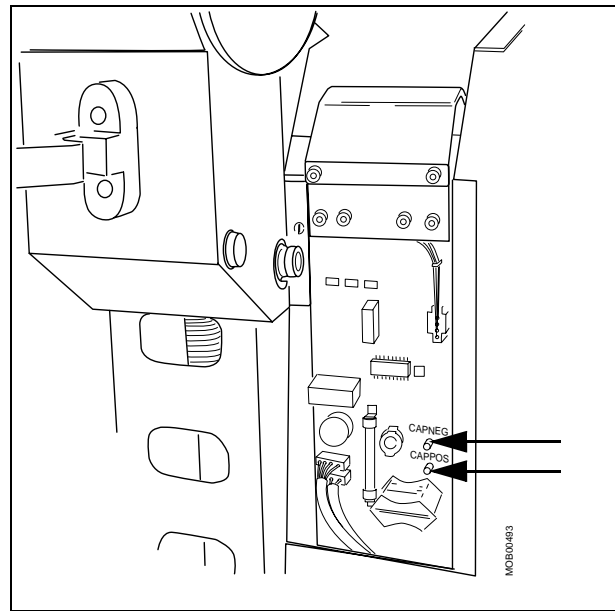

Fig. 2
- Measure the residual voltage at test points CAPPOS and CAPNEG on board D7 (Fig. 2). The voltage measured must be less than 10 V.